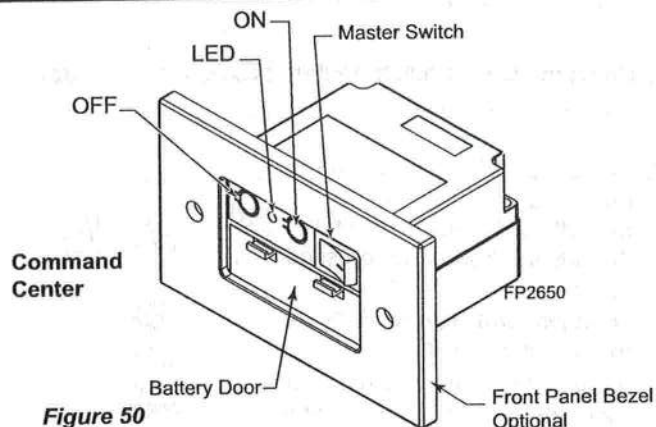

Figure 50
1. The RF receiver button on the control board in the fireplace must be in the on position before the learn function can begin. Figure 50 With the Command Center master switch in the ON position, use paper clip to depress the recessed button on Control Board, one beep for RF receiver ON or two beeps for RF receiver OFF.